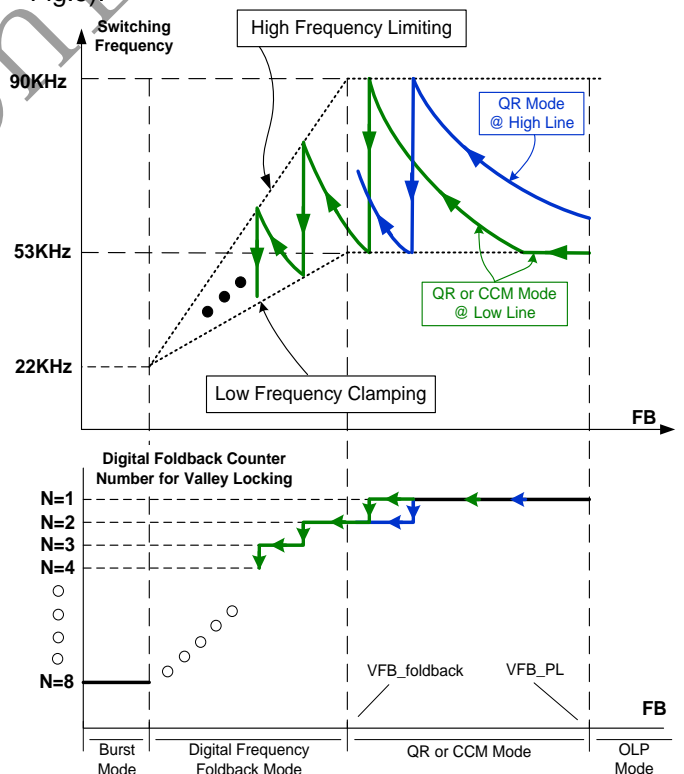
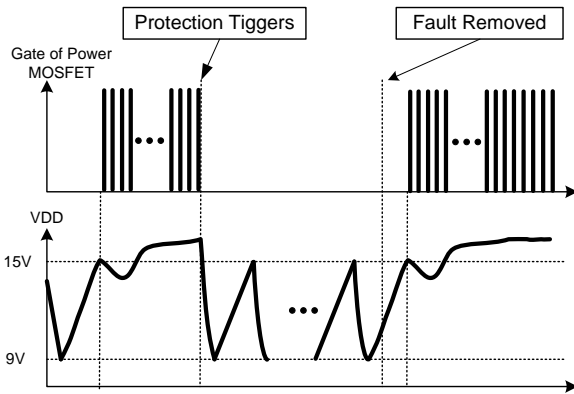

Fig.3
Fig.9
■ At normal or full loading conditions, the operating mode is CCM when the input is in low line range since the low clamping frequency (52KHz typical) is touched. Thus, small size transformer can be used with high power conversion efficiency. When the input is in high line input range, the IC work in QR mode with high frequency clamping (typical 80KHz), as shown in Fig.3. When FB voltage is larger than VFB\_PL, the system enters into OLP mode with auto recovery protection (as illustrated in Fig.8 and Fig.9).
■ At light loading conditions (FB voltage is below VFB\_foldback), the IC works in **"Digital Frequency Foldback"** mode. The system frequency is limited between "High Frequency Limiting" and "Low Frequency Clamping", as shown with the dashed line in Fig.3. In **"Digital Frequency Foldback"**
As shown in Fig.9, once a fault condition is detected, switching will stop. This will cause VDD to fall because no power is delivered from the auxiliary winding. When VDD falls to UVLO(off) (typical 9V), the protection is reset and the operating current reduces to the startup current, which causes VDD to rise, as shown in Fig.9. However, if the fault still exists, the system will experience the above mentioned process. If the fault has gone, the system resumes normal operation. In this manner, the auto restart can alternatively enable and disable the switching until the fault condition is disappeared.